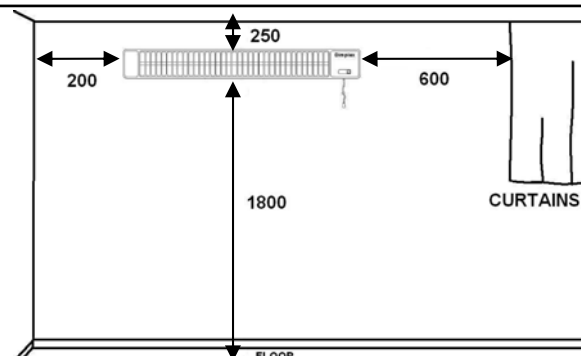

Fig.1
See also Fig.1 below
2. Before positioning the heater, firstly observe the clearances shown on page 1 (**Fig.1**)